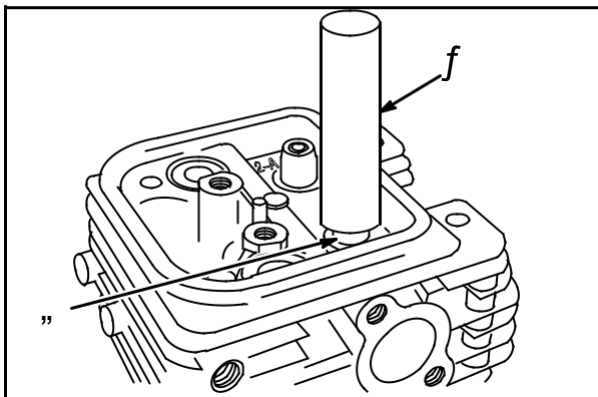

Fig. 12
Press in new valve guide (4) using Bushing Driver (3) #19416, Fig. 12. Press in until tool bottoms on valve guide bushing boss.